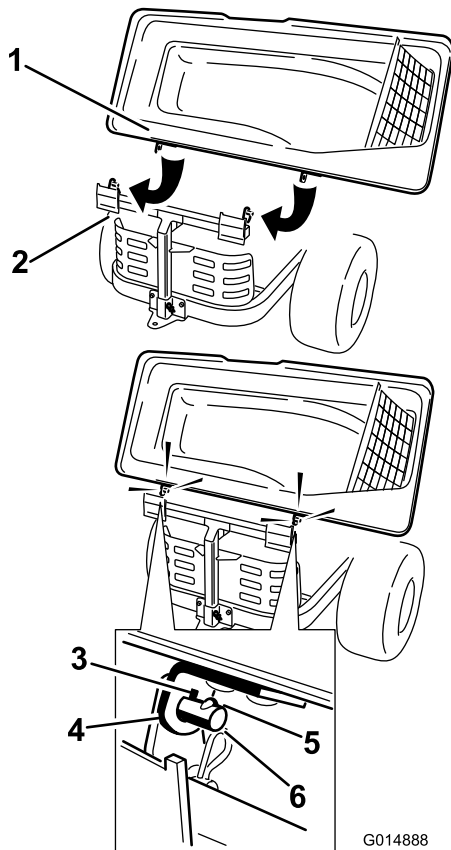

Figure 17
1. Install the bagger top to the bagger frame. Rotate the bagger top to align the key holes in the bagger top brackets with the keys in the posts on the bagger frame (Figure 17). Slide the brackets over the posts and rotate the bagger top down to the operating position.